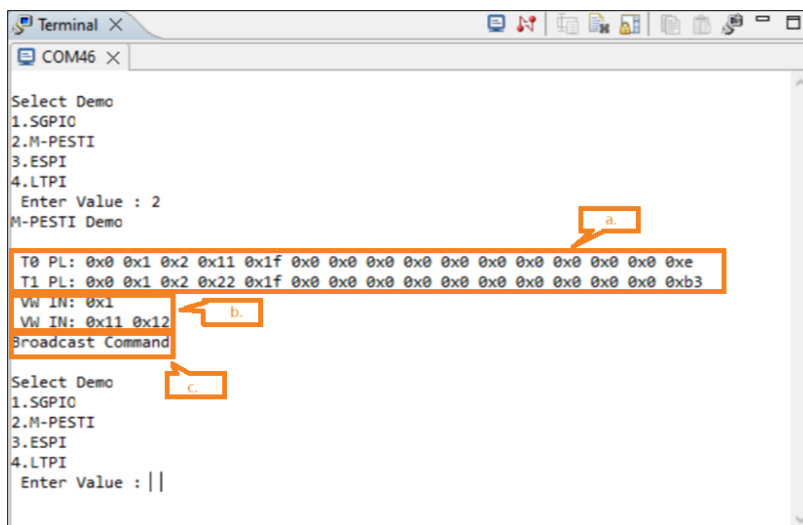

Figure 6.16. M-PESTI Demonstration Terminal
5. After selecting the M-PESTI demonstration, the following can be observed on the UART terminal (Figure 6.16):